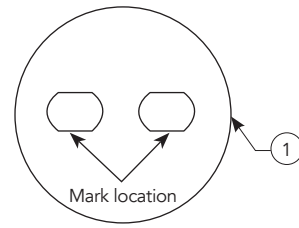

FIGURE 2
2. Use hardware **(2 & 3)** and secure mounting post **(1)** to wall **(Fig. 2)**.
2. Use hardware **(2 & 3)** and a level, attach both mounting posts **(1)** to the wall using one mounting hole only **(Fig. 2)**. Select correct center line for accessory. Tighten mounting screw lightly. Do not secure.